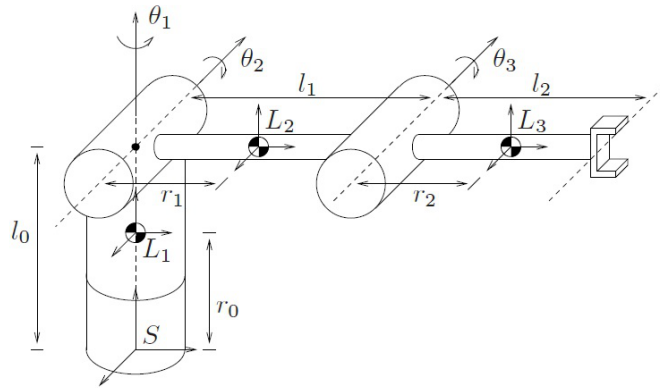

Figure 1: The 3-link elbow manipulator.
In class, we had outlined the computational procedure of getting the EOMs for the 3-link elbow manipulator shown in Figure 1 (example 4.3 on pages 172-175 in MLS). Use Mathematica or Matlab's Symbolic Toolbox to implement this procedure with the help of screw kinematics and compute the equations of motion for the elbow manipulator.
4. (+2pts) Use the EOMs to implement the forward dynamics of the elbow manipulator. Devise and demonstrate a control that drives the end-effector from the position given in Figure 1 into a vertical position with the end-effector pointing skywards.